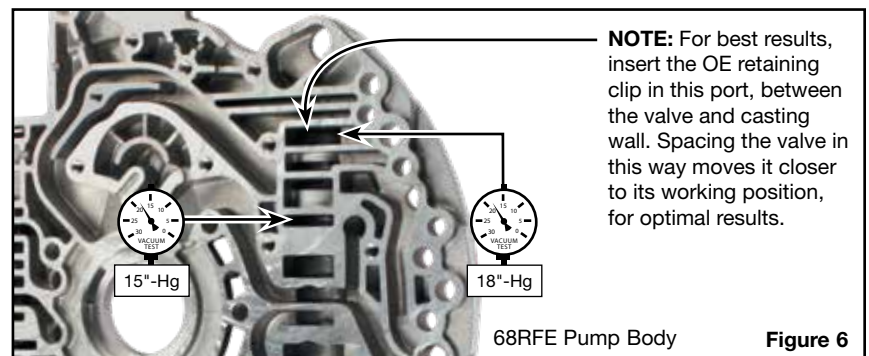

Figure 6
- Vacuum test the lube regulated pressure regulator valve in the recommended testing ports. Vacuum should hold a minimum of 15 and 18 in-Hg (**Figure 6**).